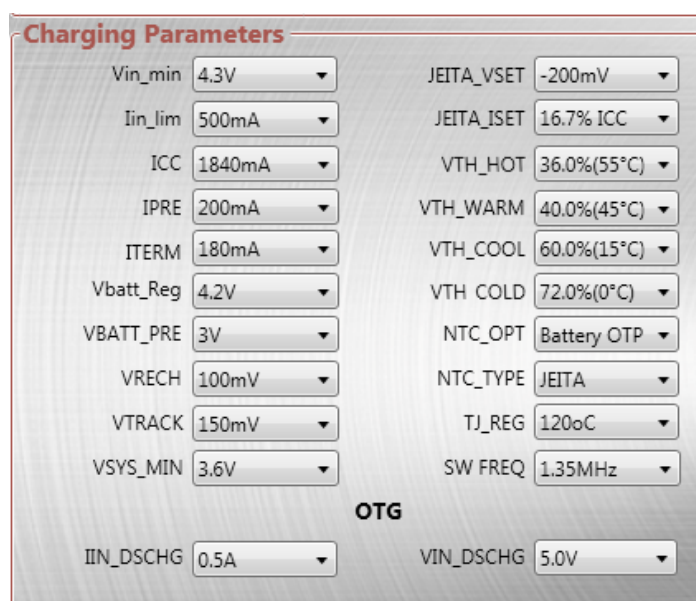

Figure 5: MP2731 GUI Charging Parameters Display
3. Set the charging parameters (see Figure 5).